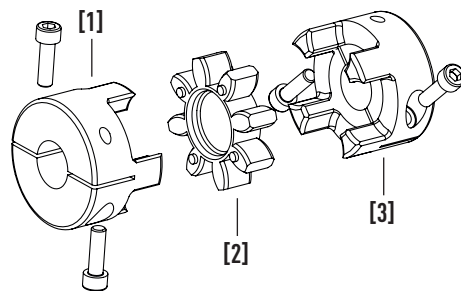

Fig. 6.30 Coupling assembly variant 2: clamping hubs with two clamping screws
- Variant 2 with two clamping screws, see Fig. 6.30